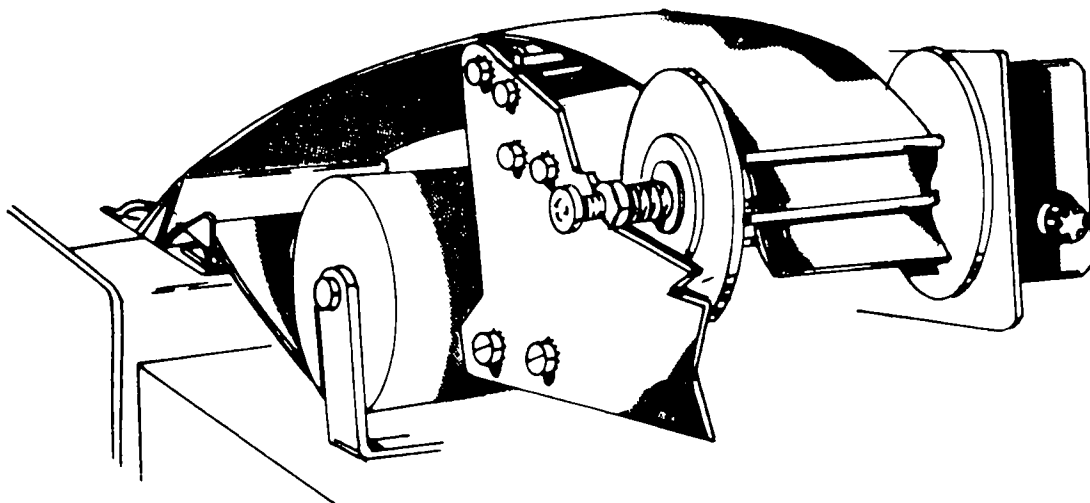

Figure 3-4 Paper Entering Paperwinder
- (8) Make sure that the edges of the paper move freely between the inside faces of the paperwinder discs.
- (9) Turn the platen knob to advance the paper approximately two feet.
- (10) Pass the starting edge of the paper over the paperwinder bail and insert it between any two rods on the takeup reel, as shown in Figure 3-4.
- (11) Turn the Paperwinder Power ON/OFF Switch to the ON position. (The paperwinder reel will begin to rotate, taking up any slack in the paper.)